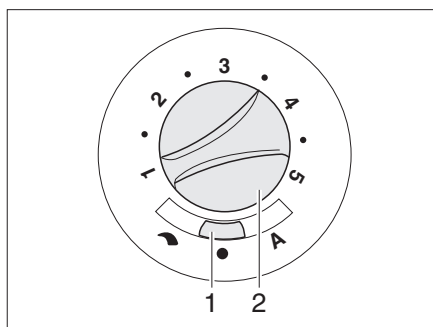

Fig. 113 Operating switch for circulation fan (12 V)
- Set sliding switch (Bild 113,1) to "↷" (manual control) or "A" (automatic operation).
- If "↷" (manual control) is set on the sliding switch (Bild 113,1): Turn the knob (Bild 113,2) to the required position of the circulation fan.
- Set the sliding switch (Bild 113,1) to "●" (off). This switch setting has no function in heating operation.